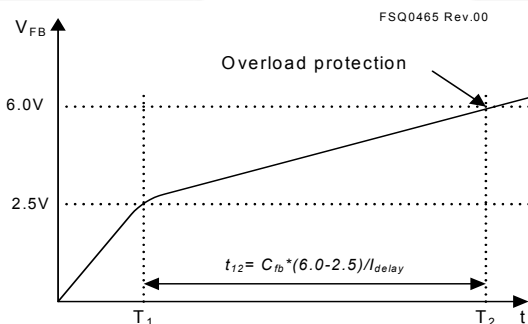

Figure 29. Overload Protection
4.1 Overload Protection (OLP): Overload is defined as the load current exceeding its normal level due to an unexpected abnormal event. In this situation, the protection circuit should trigger to protect the SMPS. However, even when the SMPS is in the normal operation, the overload protection circuit can be triggered during the load transition. To avoid this undesired operation, the overload protection circuit is designed to trigger only after a specified time to determine whether it is a transient situation or a true overload situation. Because of the pulse-by-pulse current limit capability, the maximum peak current through the SenseFET is limited, and therefore the maximum input power is restricted with a given input voltage. If the output consumes more than this maximum power, the output voltage (V_O) decreases below the set voltage. This reduces the current through the optocoupler LED, which also reduces the optocoupler transistor current, thus increasing the feedback voltage (V_{FB}). If V_{FB} exceeds 2.5V, D1 is blocked and the 5 μ A current source starts to charge C_B slowly up to V_{CC} . In this condition, V_{FB} continues increasing until it reaches 6V, when the switching operation is terminated, as shown in Figure 29. The delay time for shutdown is the time required to charge C_{FB} from 2.5V to 6V with 5 μ A. A 20 ~ 50ms delay time is typical for most applications.